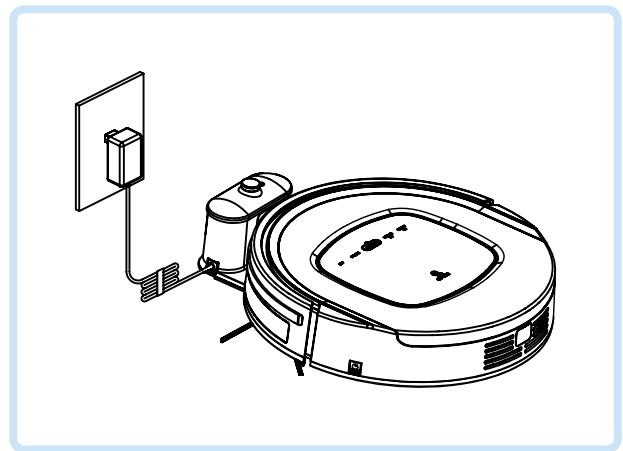

Figure 2
2. Press “HOME” on robot or “HOME” on remote control to operate the robot to go charging station for recharging as shown in Figure 2.